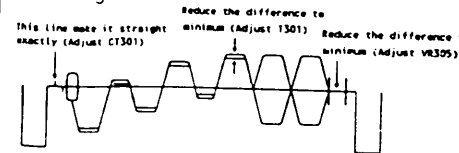

Fig 9.
- Adjust CT301 to obtain the waveform as in fig. 9.
- Adjust VR305 to obtain waveform as in fig. 9.
- Adjust T301 to obtain waveform as in fig. 9.